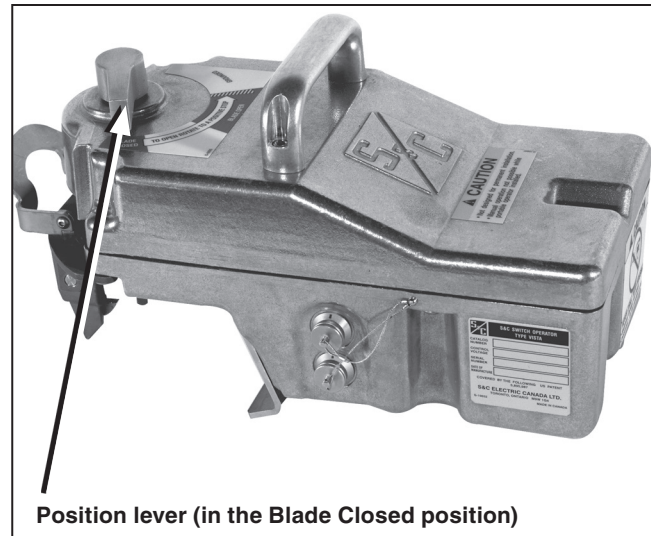

Figure 3. Adjusting the position lever of the portable motor operator.
**STEP 2.** Adjust the position lever of the portable motor operator to correspond with the position of the operating disk observed in Step 1. See Figure 3.